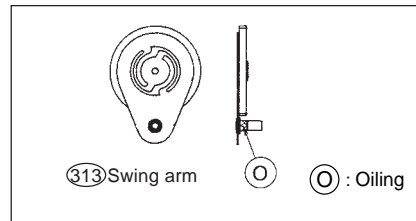

Fig. 5. After joining the main chassis and slide chassis
- Oil application place is shown in Fig. 5.